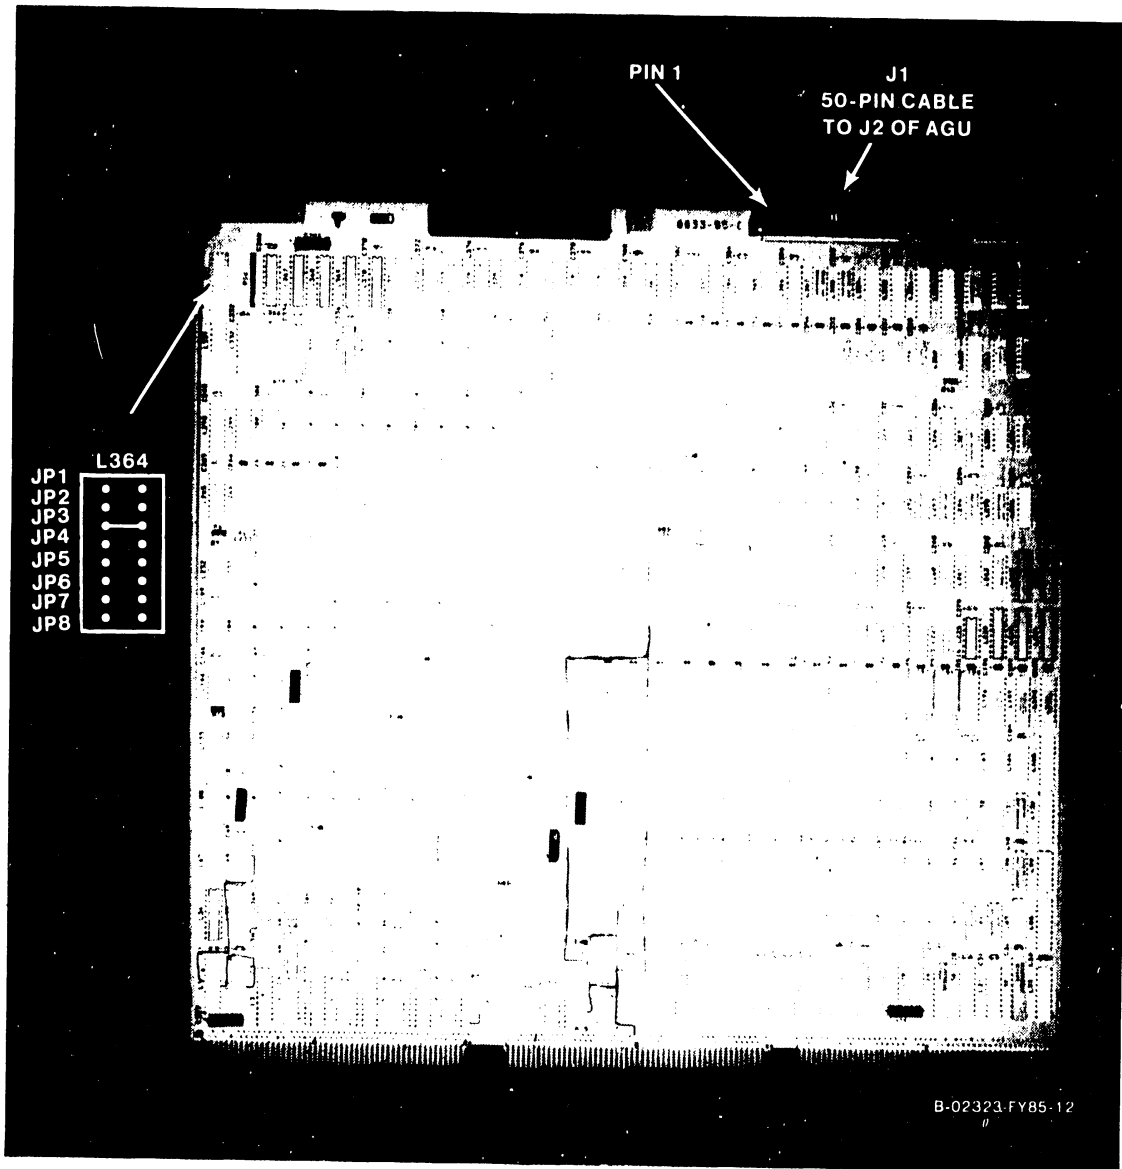

Figure 7-12. 210-9833 Address Translation Unit
1. Before removing the Address Translation Unit (ATU), figure 7-12, from backplane slot #4 disconnect the 50-pin cable from J1.
3. After checking the IPC Destination Processor jumpers at L364 as shown in figure 7-12, install the new ATU.